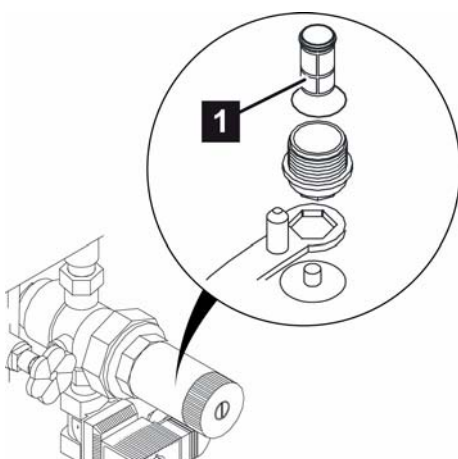

Fig. 22: Debris collector sieve
8. Ensure that the debris collector sieve (Fig. 22/1) in the pressure reducer is clean.